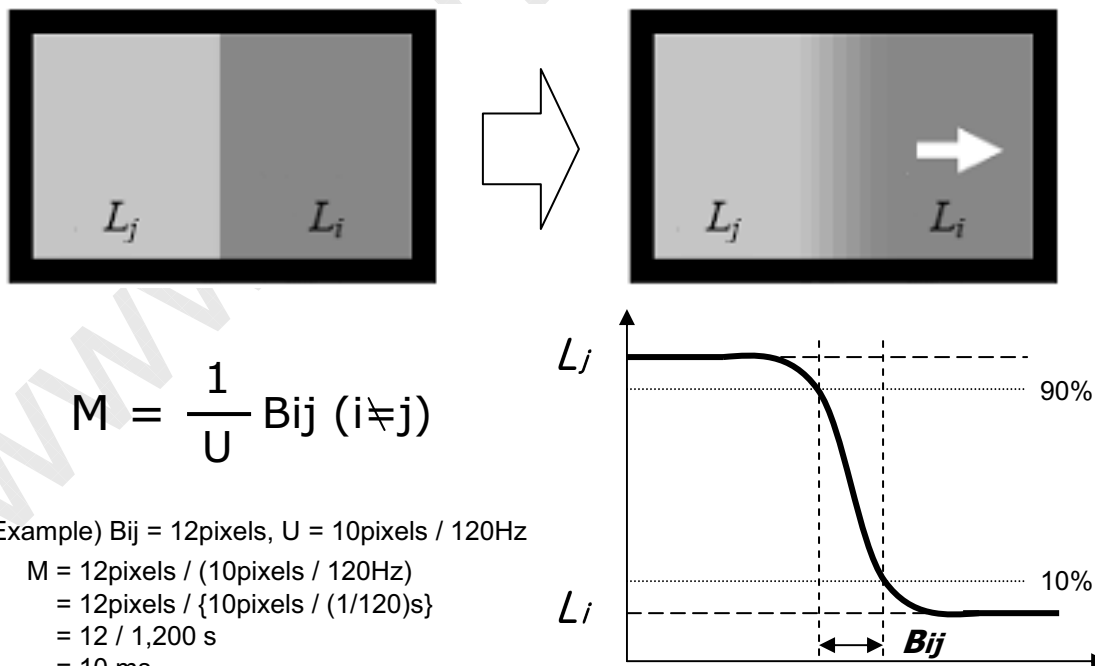

FIG. 3 MPRT
4. MPRT is defined as the 10% to 90% blur-edge width Bij(pixels) and scroll speed U(pixels/frame)at the moving picture. For more information, see FIG 3